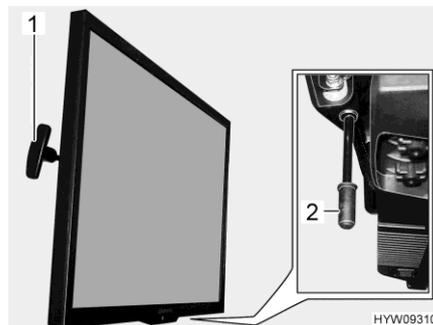

Fig. 95 Flat screen
- Pull and hold handle (Fig. 95,1). The flat screen is unlocked.
- Pull down the handle (Fig. 95,2) and hold it there. The flat screen is unlocked.